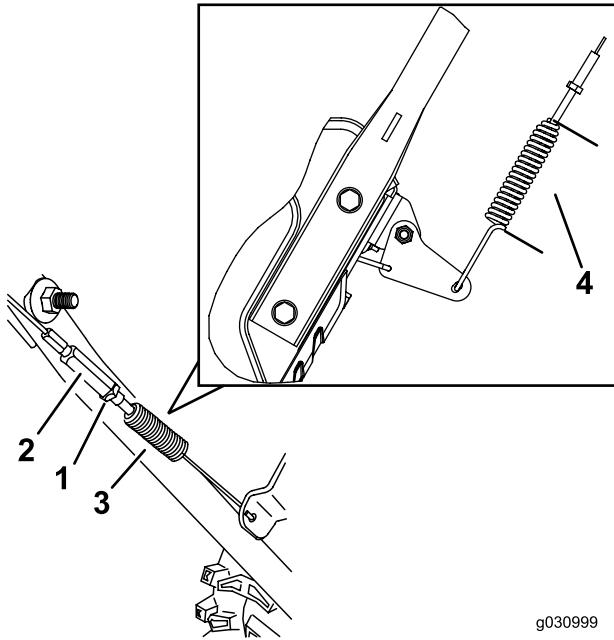

Figure 30
4. Tighten the jam nut (Figure 30), ensuring that there is slight tension on the cable.
3. Loosen or tighten the turnbuckle to adjust the spring length to 5.5 cm (2-3/16 inches) as shown in Figure 30.